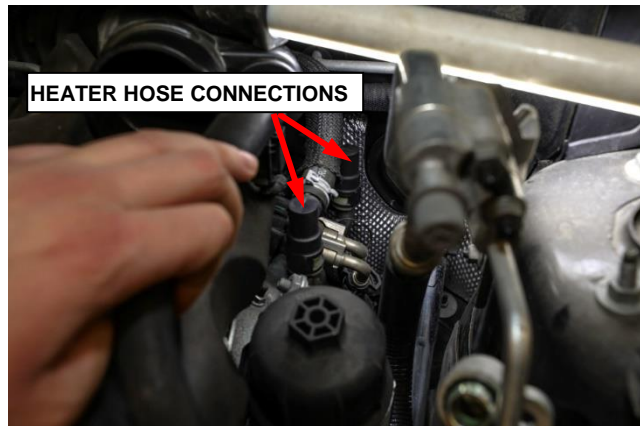

Figure 15 – Heater Hose Connections
34. Disconnect the two hose heater hoses (Figure 15).